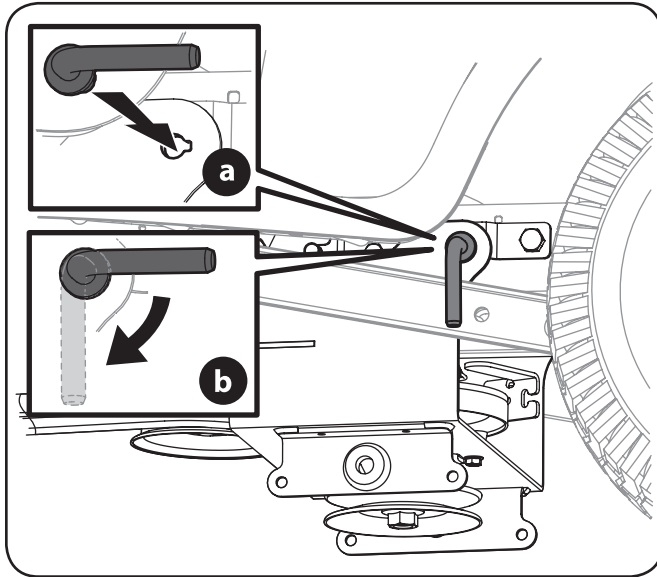

Figure 3-8
8. Secure the carriage in place with the two lock rods. See Figure 3-8.